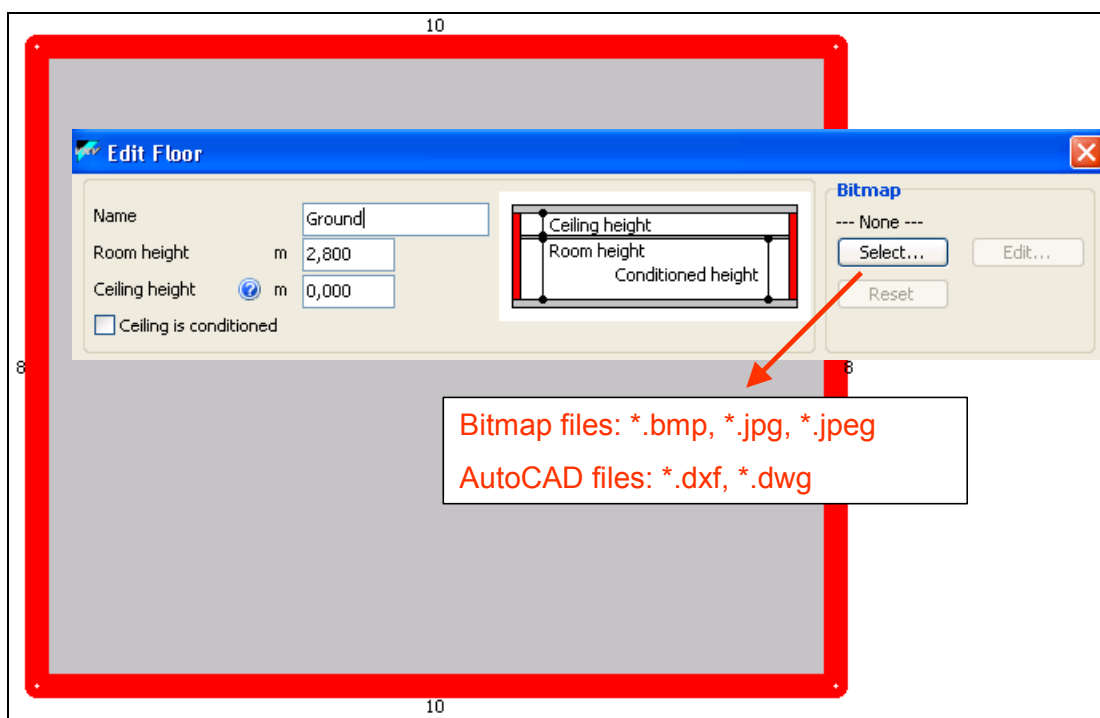

Figure 14: Loading a floor plan template
A new VRVPro floor plan starts as a simple rectangle of 10m x 8m, over which you can place a floor plan template, by selecting in from the floor edit window, as shown in Figure 14:
- Select and load an AutoCAD file in the same way as a bitmap file (see Figure 14).